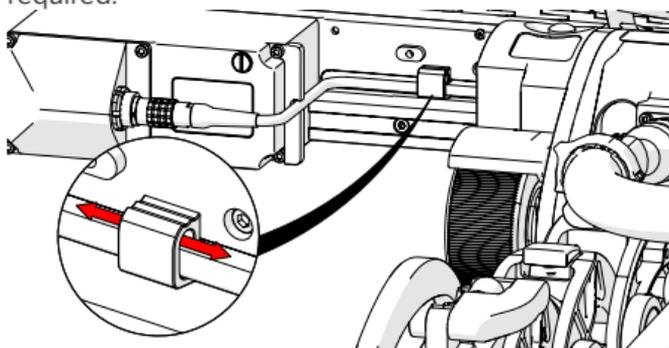

Fig. 51 - Adjustable cable clips
3. Route the cable through the adjustable clips on the raster arm (Fig. 51). These clips slide along the raster arm, allowing the raster arm cable to be positioned as required.